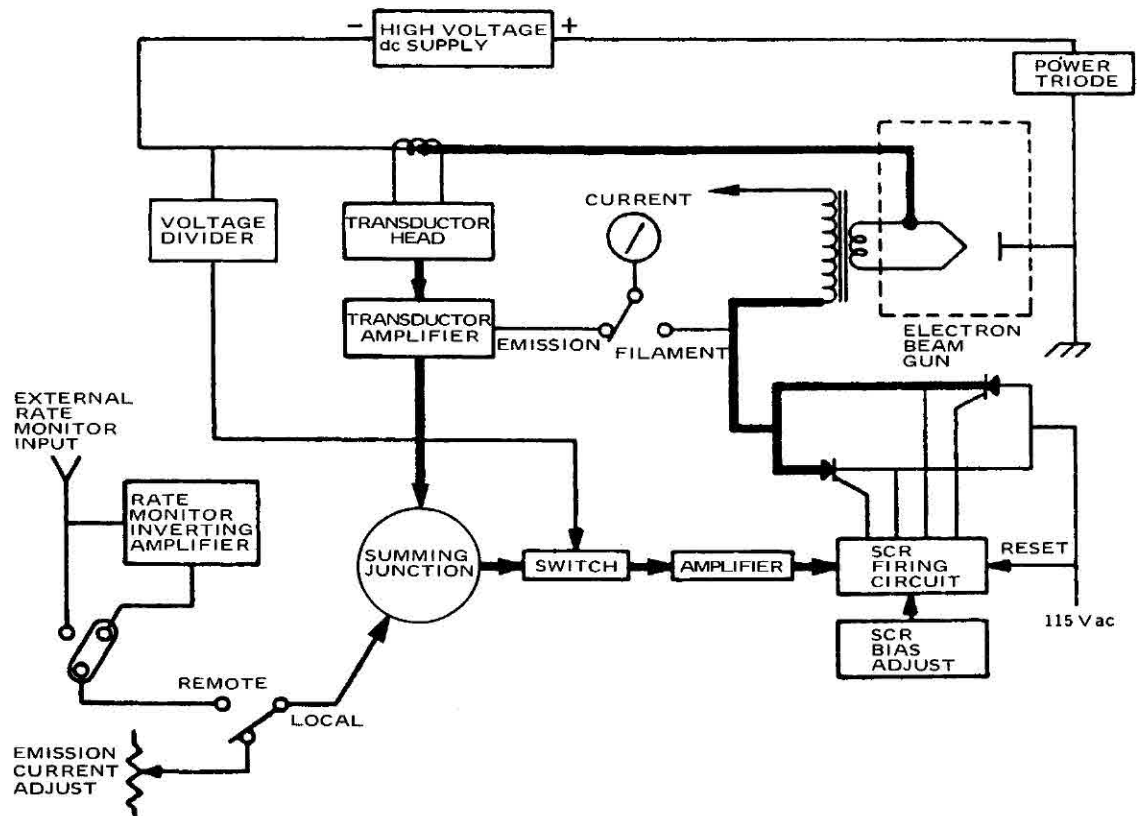

Figure 4-8. CV-14 A and B emission current regulation block diagram
4.6 PRIMARY POWER (Figures 4-8)